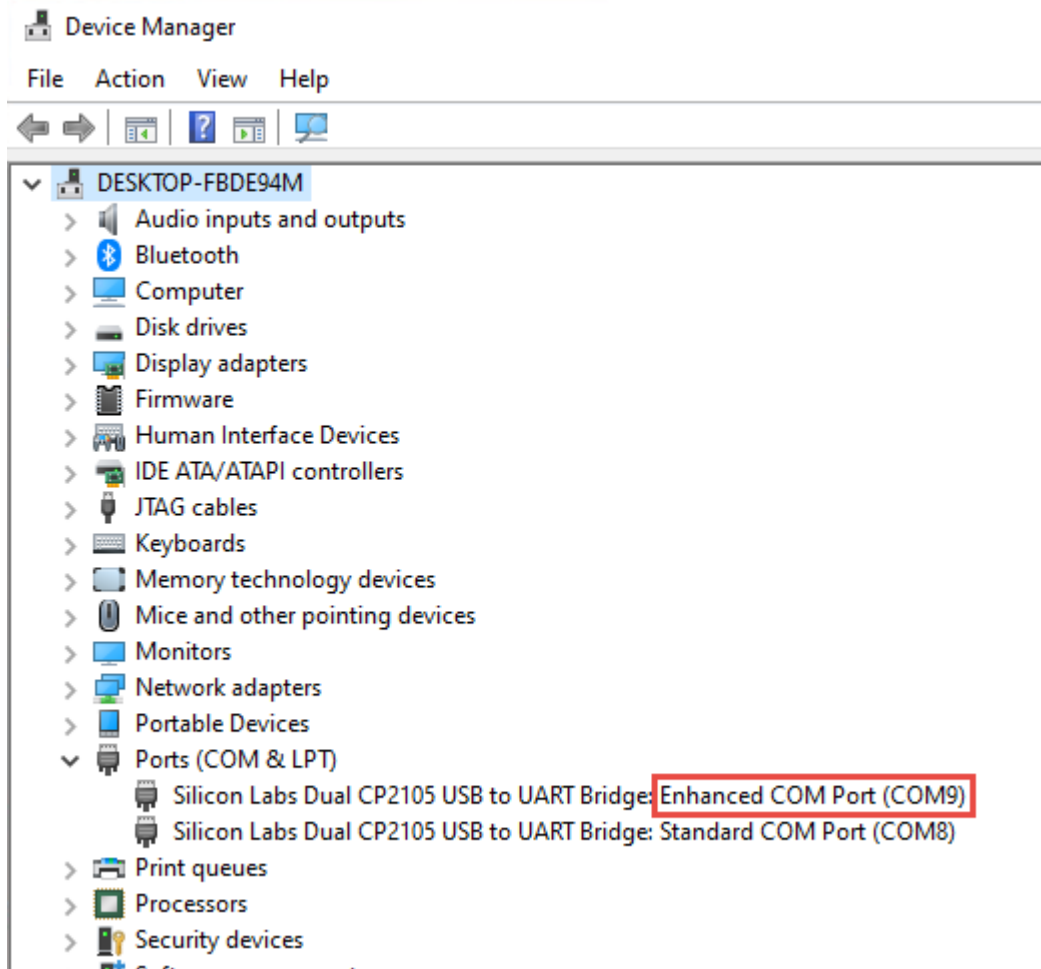

Figure 1-8 Device Manager
1. Open the “Device Manager” on your windows and check the “Port(COM&LPT)” tab. User may find the Silcon UART device CP2105 on the list. Find the COM number of “**Enhanced COM port**”. It represents the HPS UART Port. See **Figure 1-8**, the COM number of this Host is COM9. *Note that the “**COM9**” on the Serial Line column needs to be modified according to the actual com port on the user's computer.*